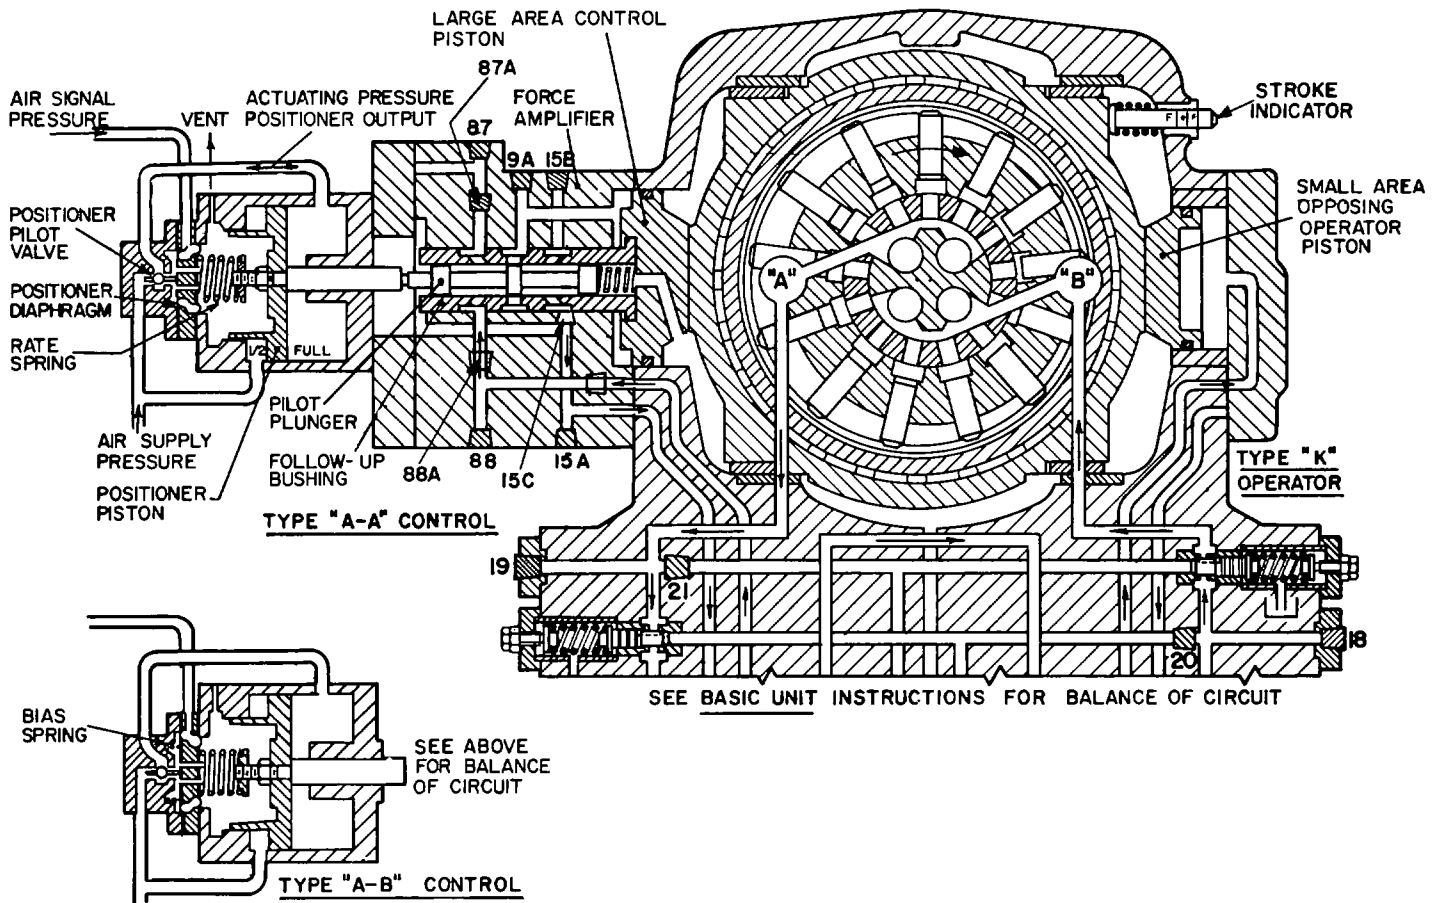

Figure 2. Cutaway Diagram of Type "A" Control (5V-10309-LA).
B. PRINCIPLE OF OPERATION (Refer to figure 2).